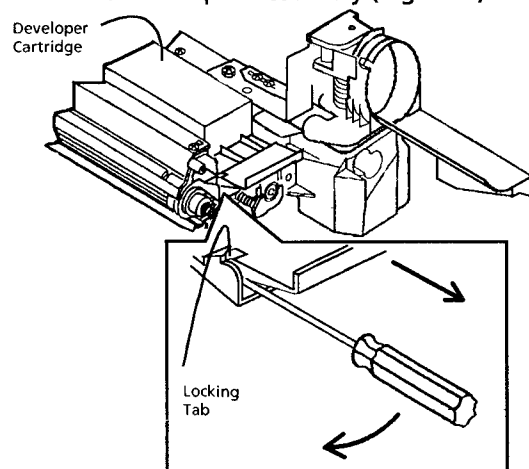

Figure 1. Removing the Developer Cartridge
3. Remove the Developer Cartridge by using the small screwdriver to release the locking tab while pulling the cartridge off of the Developer Assembly (Figure 1).